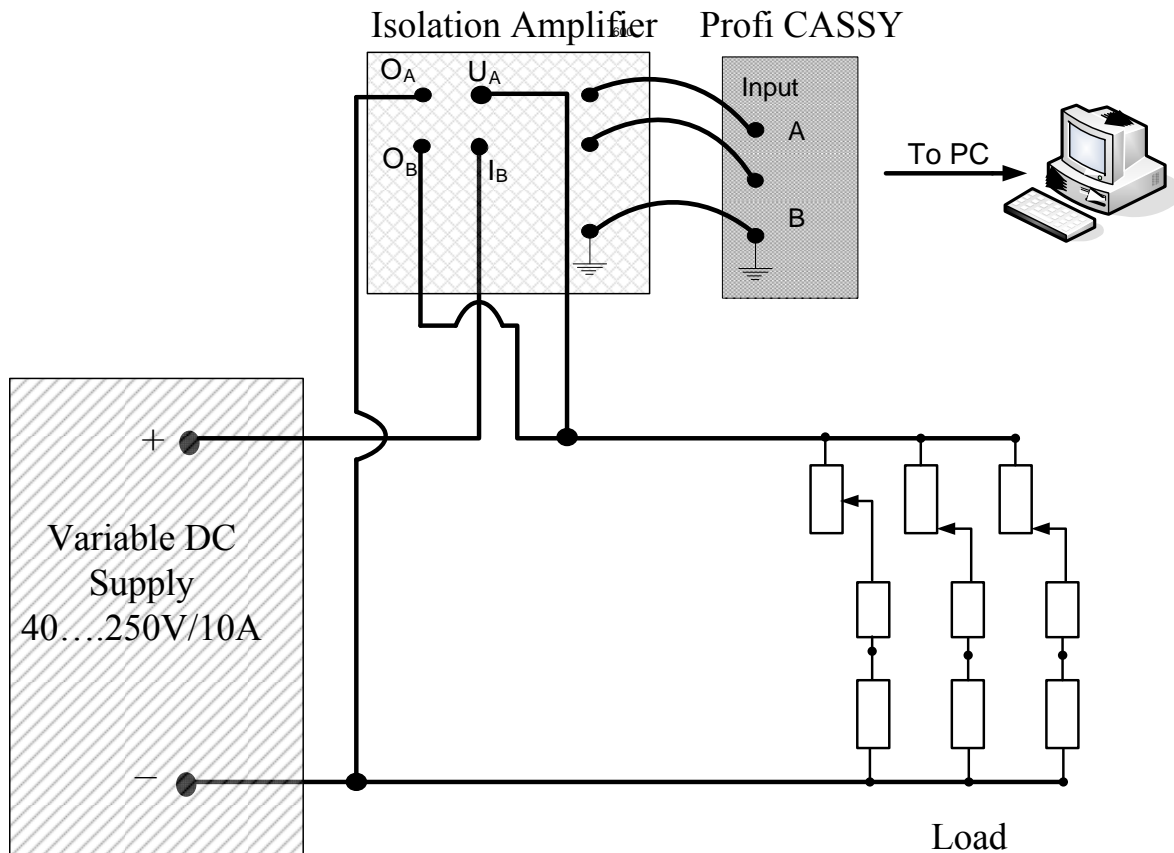

Figure 1: Wiring Diagram for DC Measurements Set Up.
3. Connect the circuit as shown in Figure 1 including Cassy measurement Connection for the indicated load Voltage and load Current and fix the rotating resistive cursor at 100 % of R values.